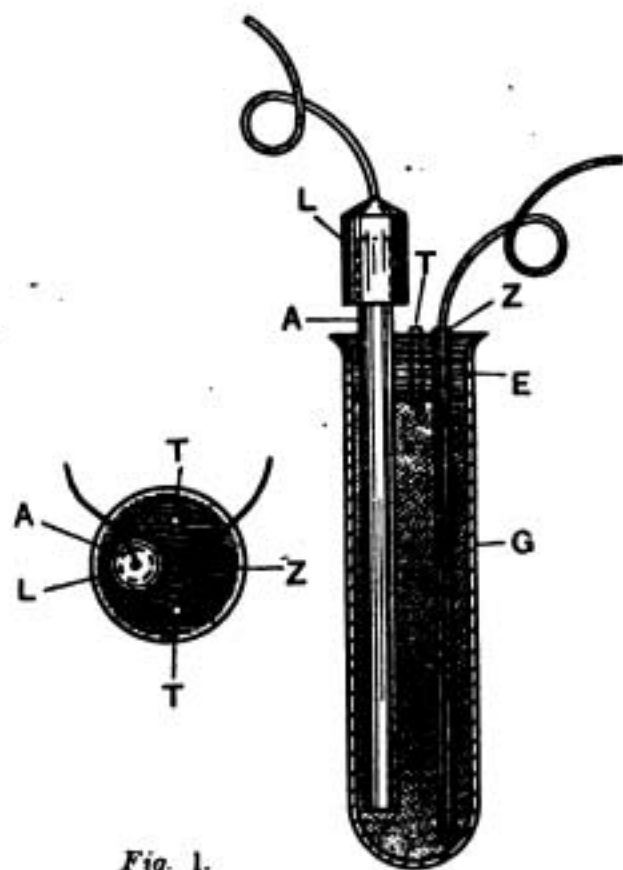

Fig. 1.
In Fig. 1 (G) is a glass test tube $4" \times \frac{1}{4}"$ diameter; these can be obtained very cheaply from a wholesale chemist in large quantities. (A) is a carbon rod (also cheap) such as is used in street lamps, etc., cut in lengths each $4\frac{1}{2}"$ (diameter about $\frac{1}{8}"$). (Z) is a length of flat zinc $\frac{3}{8}"$ wide by about $\frac{1}{8}"$ thick, and $4"$ long. There is no reason why the length should not be made from ordinary Leclanche No. 2 circular zincs cut in halves.
A $3"$ piece of 16 S.W.G. bare copper wire is soldered to the tops of the zincs and the joints then enamelled or treated with shellac. To make the connections on the carbon rod a mould is made by boring a $\frac{1}{8}"$ diameter hole $\frac{3}{8}"$ deep in teak or other hard wood, and melting plumber's metal into the same. The rod is dipped into the molten metal which is then allowed to set. See (L) in Fig. 1. The $3"$ copper wire is then soldered on the top of the lead cap.
The next thing is to fit the cell up. To do this fill the test tube with fine sand to about $\frac{1}{2}"$ from the top, first placing in it the zinc, which should rest on the bottom of the tube, and also placing the carbon opposite but keeping it about $\frac{1}{2}"$ clear from the bottom and as far as possible from the zinc; then pour melted pitch or marine glue round the carbon and zinc and allow it to set. Fig. 1 (E). A small piece of glass tube about $\frac{1}{8}"$ internal diameter Fig. 1 (T) should be inserted with the pitch, or else two holes should be made on opposite sides with a French nail of about the same diameter ($\frac{1}{8}"$). These holes are to allow for the removal of the fine sand, and for filling in the electrolyte.